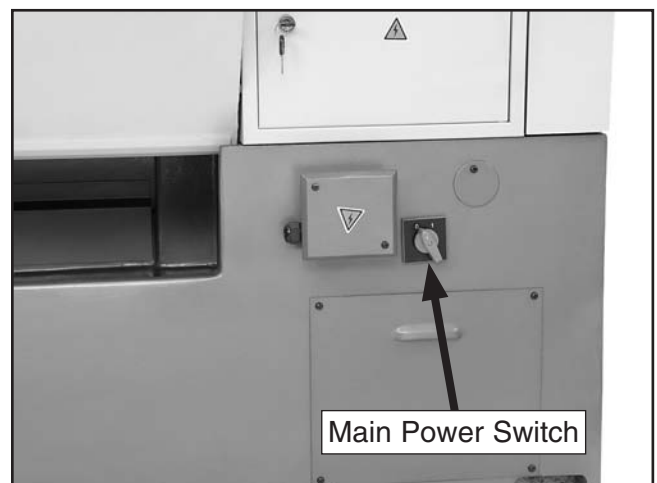

Figure 16. Main power switch on the left rear of the lathe.
8. Connect the lathe to power, then turn the main power switch **ON** shown in **Figure 16**.